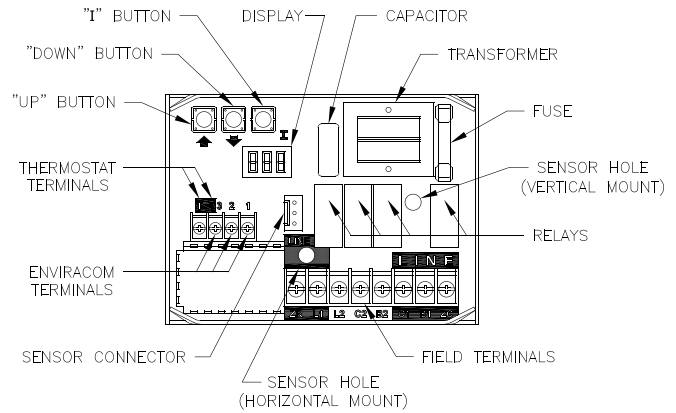

Figure 18: Intelligent Oil Boiler Control
- b. The boiler's sequence of operation is shown as Status Codes on Boiler Control display. See Table 6 and Figure 18.
- d. If the thermostat is not satisfied and the Operating Setpoint (SP) is reached the system circulator will continue to operate and the burner will stop. When the boiler water temperature drops below the setpoint less the differential setting the burner will restart.
- f. When an indirect water heater aquastat call for heat is wired to the "ZR" terminal the Boiler Control starts a domestic hot water circulator connected to the "ZC" terminal and when the boiler temperature is less than Operating Setpoint (SP), the boiler control energizes the oil primary to turn on the burner without circulator pre-purge delay.
- g. On burner start, if the CAD cell does not see flame within approximately 15 seconds, primary control will shut down the burner and enter into a lockout mode. A lockout is reset by pressing the reset button located on the primary control. If the flame is lost while the burner is firing, the primary control shuts down the burner, enters a 60 second recycle delay, and repeats the ignition sequence. If after three (3) trials for ignition, flame is not detected, primary control will enter into restricted mode. Restricted mode is reset by holding down the reset button for 15 seconds.